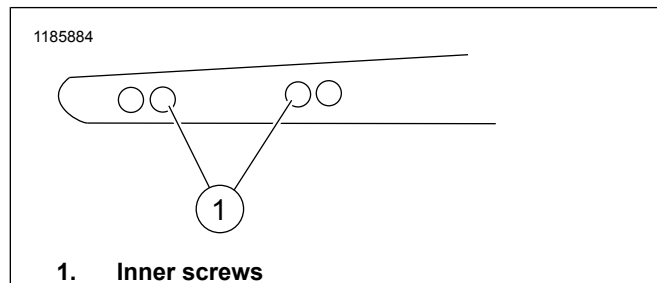

Figure 2. Inner Screws of Four Screw Pattern
1. See Figure 2. **FXLR, FLSL, FXFB, FLDE:** Remove right side Original Equipment (OE) screws.
- a. Remove both screws from two screw pattern fender support or remove the inner screws (1) from a four screw pattern fender support.